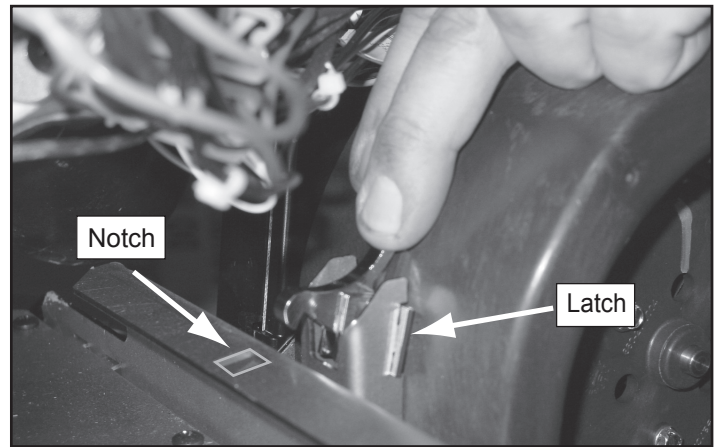

Figure 33.2
1. After the sides are removed, reach behind the blower and release the latch by pushing the top of the latch towards the blower (**Figure 33.2**).